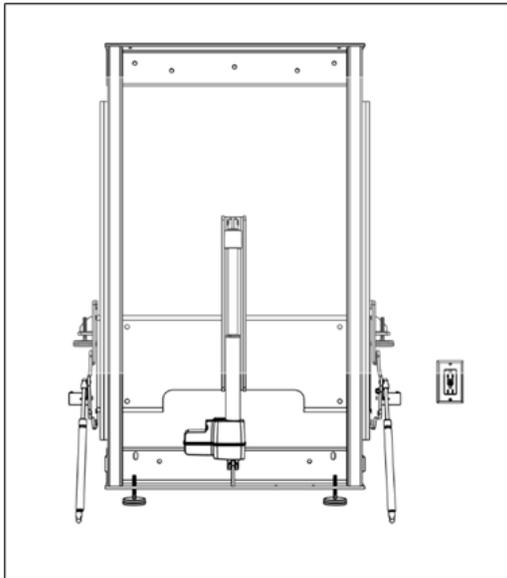

Figure 7 - Mounting Hole Locations
1. Place the power unit frame against the wall at the desired location (refer to Figure 7).